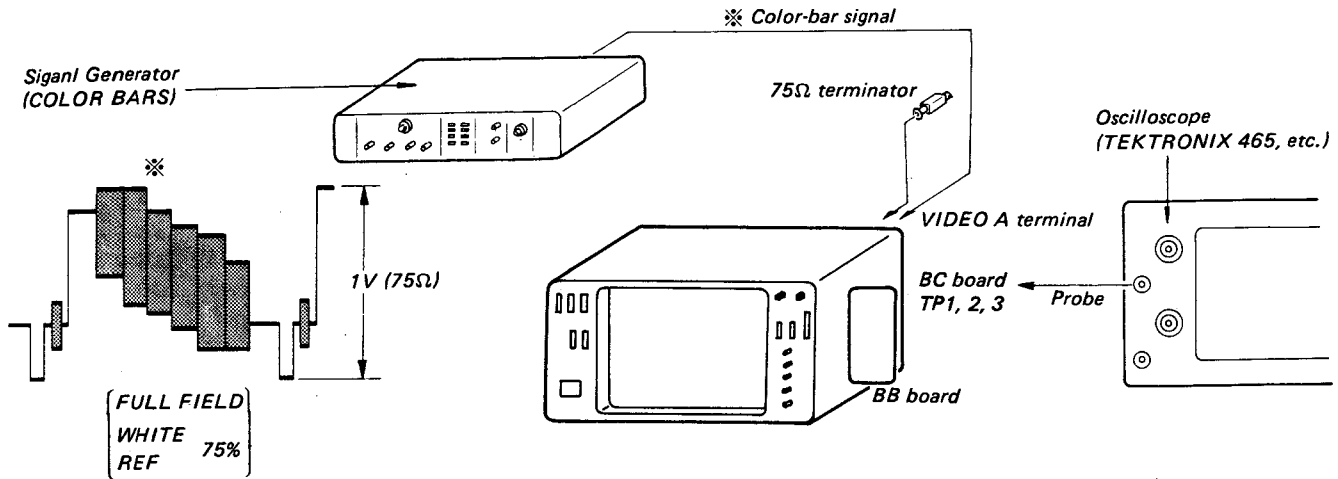

Fig. 5-114.
1. Complete the connections as shown in Fig. 5-114.